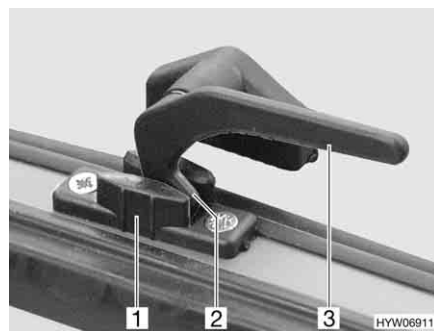

Fig. 52 Catch lever in the "continuous ventilation" position
- "Continuous ventilation" (Fig. 52)
- Turn the catch lever (Fig. 52,3) a quarter turn towards the centre of the window.
- Turn the catch lever a quarter turn towards the window frame. The locking catch (Fig. 52,2) has to be moved into the recess of window catch (Fig. 52,1).